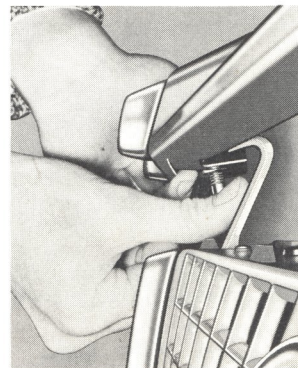

Figure 8. Hood catch
- b) Push aside the lock mechanism which is situated at the main lock under the front part of the hood. See Figure 8.